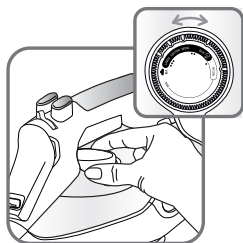

fig.3
- Set the temperature control dial **fig.3** on position (Min.)
Set the iron temperature to suit the type of material using the temperature control dial (**fig.3**).
Set the temperature control dial **fig.3** on position Min.